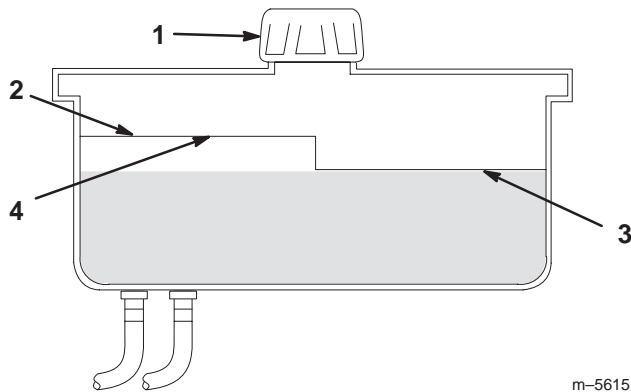

Figure 47
2. Clean area around filler neck of hydraulic tank (Fig. 47).
3. Remove cap from filler neck. Look inside to check if there is fluid in the reservoir. (Fig. 47).
Note: The fluid level should be to the top of the *hot* level of the baffle, when the fluid is warm (Fig. 47).